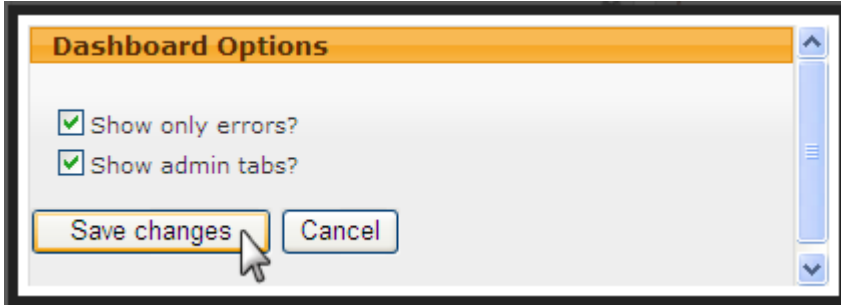

Fig. B2
2. Select (or check) the *Show only errors?* check box in the **Dashboard Options** window and then click *Save changes* (Fig. B2).